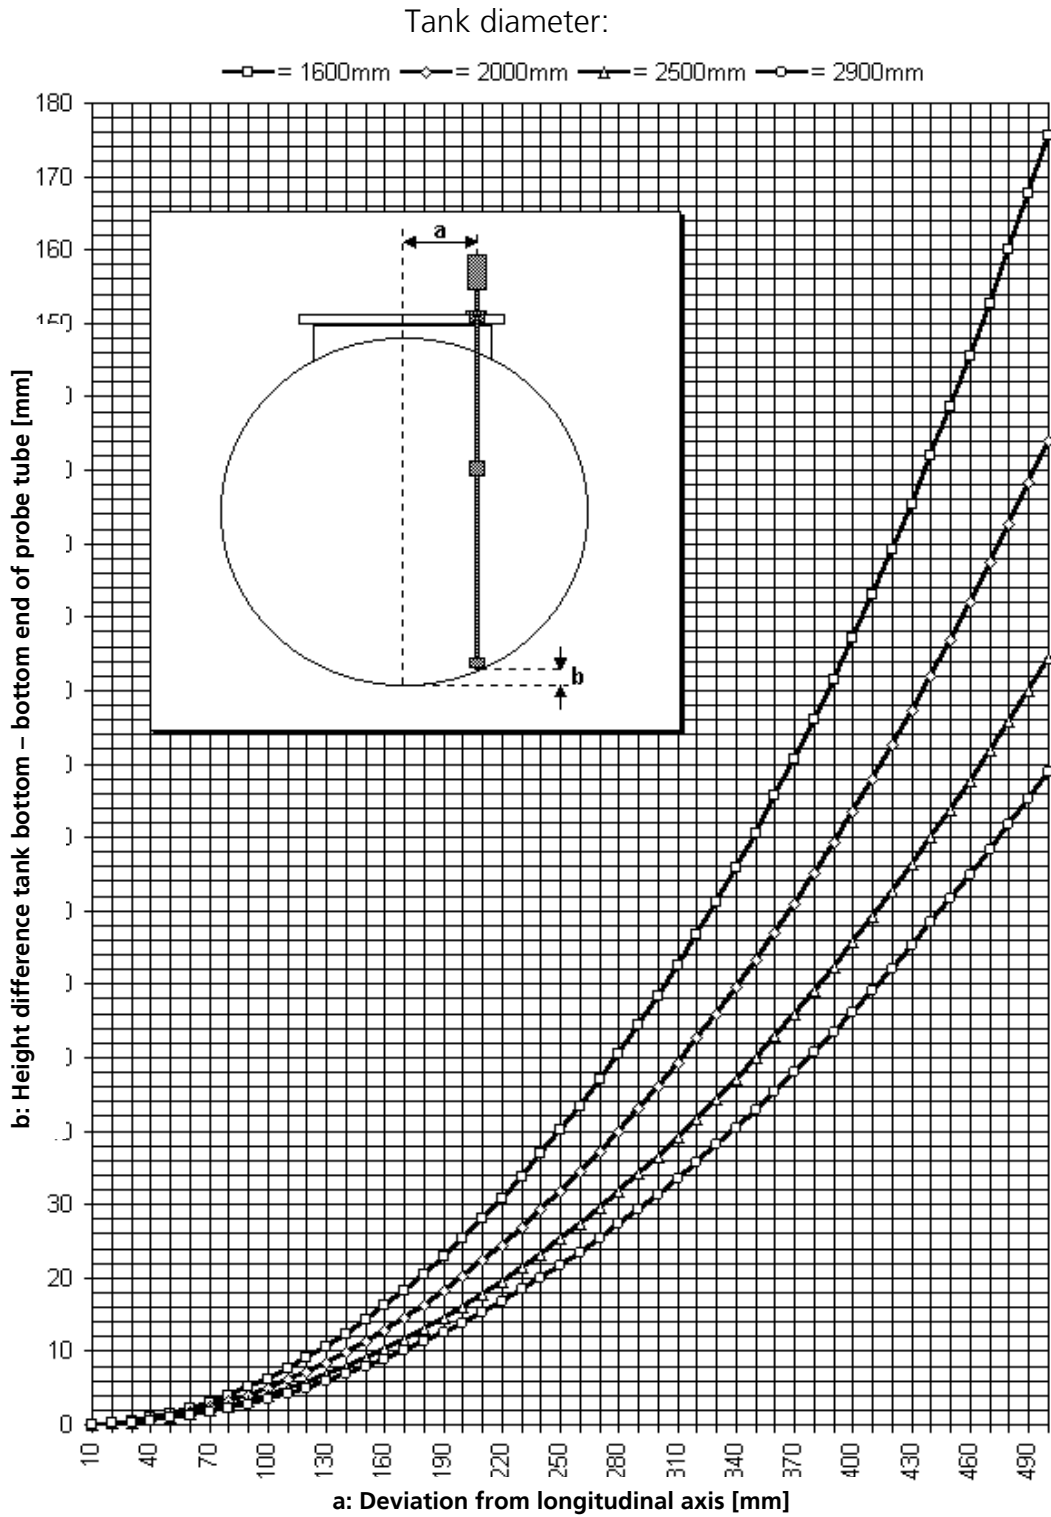

Figure 2: Installation offset for measuring value sensors
Figure 2 shows the height difference for various tank diameters of cylindrical tanks according to DIN 6608, 6616, 6617 and 6624 if the installation is carried out deviating from the longitudinal axis and the probe has direct contact with the tank bottom.
*The value to be input for the installation offset consists of the height difference  $b$  from Figure 2 and the displacement of the probe tube toward the top.*
*The installation offset consists of the distance of the end of the probe from the tank bottom plus the value determined from the table (Figure 2 on page ).*
A possible installation offset results exclusively from the installation position if this could not be carried out in the longitudinal axis of the tank (see also the table in Figure 2 on page 10).